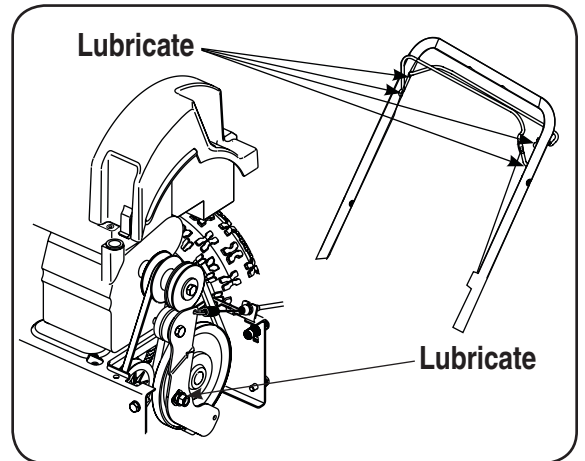

Figure 10
1. Lubricate pivot points on the auger control and drive control with a light engine oil once a season. See Figure 10.
2. Lubricate the face of the auger idler bracket with a light weight cold weather lubricant at least once a season. See Figure 10.